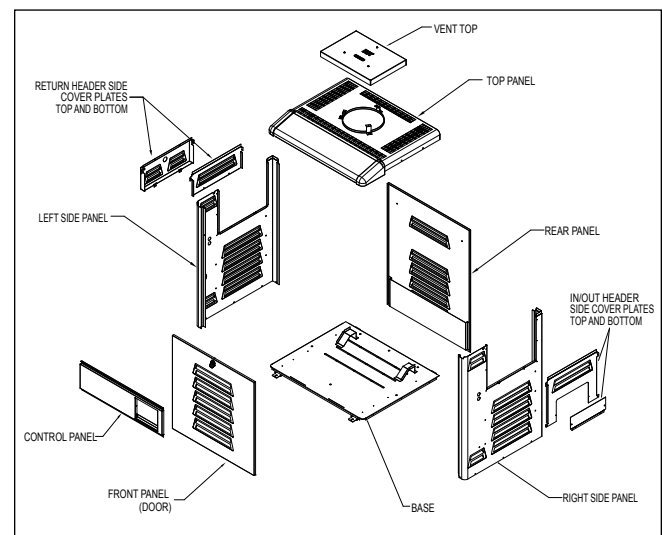

Figure 10. Legacy Panel Identification
3. Remove the I/O header side cover plates, top and bottom. See Figure 10.
4. Remove the return header side cover plates, top and bottom. See Figure 10.
5. Tag and disconnect the white wire on the pressure switch (PS) and the white wire on the Fireman's switch terminal which leads to the high limit switch.